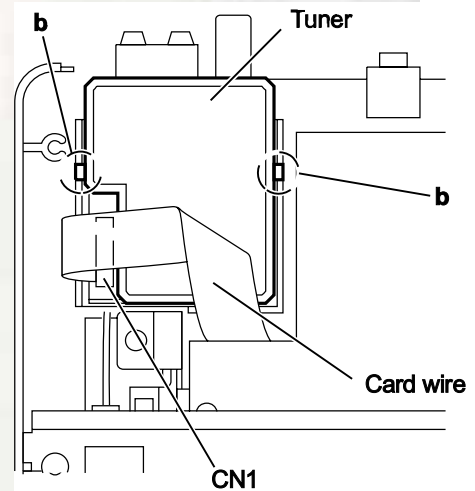

Fig.12
- (2) Release the claws **b** of the tuner holder and take out the tuner from the main body. (See Fig.12.)
- (3) Disconnect the card wire from the connector **CN1** on the tuner. (See Fig.12.)